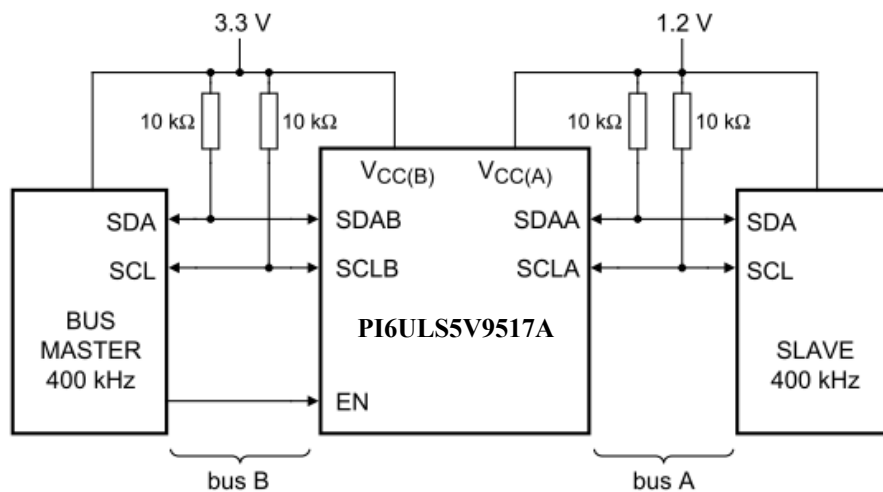
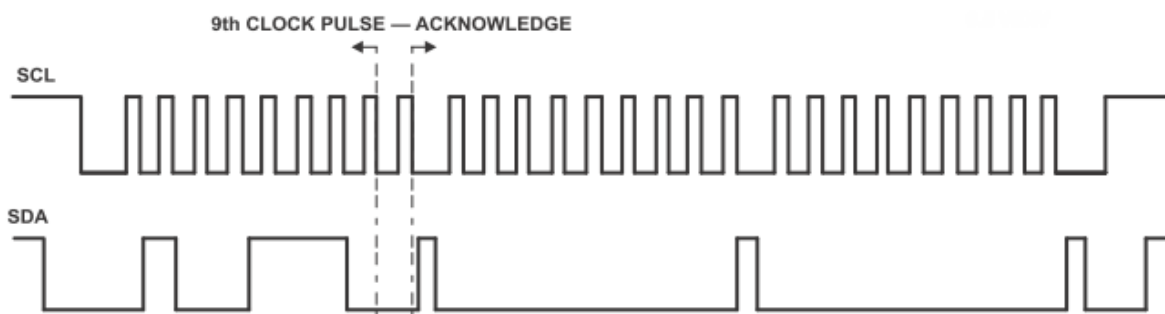

Figure 6: Typical Application
Figure 9: Bus A (0.8V to 5.5V Bus) Waveform
A typical application is shown in Figure 6. In this example, the system master is running on a 3.3 V I2C-bus while the slave is connected to a 1.2 V bus. Both buses run at 400 kHz. Master devices can be placed on either bus.
When port A of the PI6ULS5V9517A is pulled LOW by a driver on the I2C-bus, a comparator detects the falling edge when it goes below 0.3 VCC(A) and causes the internal driver on port B to turn on, causing port B to pull down to about 0.5 V. When port B of the PI6ULS5V9517A falls, first a CMOS hysteresis type input detects the falling edge and causes the internal driver on port A to turn on and pull the port A pin down to ground. In order to illustrate what would be seen in a typical application, refer to Figure 9 and Figure 10. If the bus master in Figure 6 were to write to the slave through the PI6ULS5V9517A, waveforms shown in Figure 9 would be observed on the A bus. This looks like a normal I2C-bus transmission except that the HIGH level may be as low as 0.8V, and the turn on and turn off of the acknowledge signals are slightly delayed.